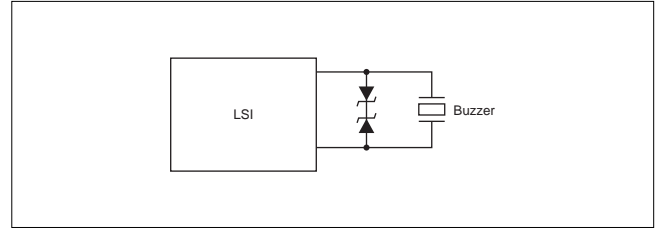

Fig. 7 Protect Circuit
- 1) Electric charges accumulated in the piezoelectric diaphragm due to thermal and mechanical shock may cause high voltage which may destroy LSI. Use the method using a Zener diode as shown in Fig. 7 to prevent this.